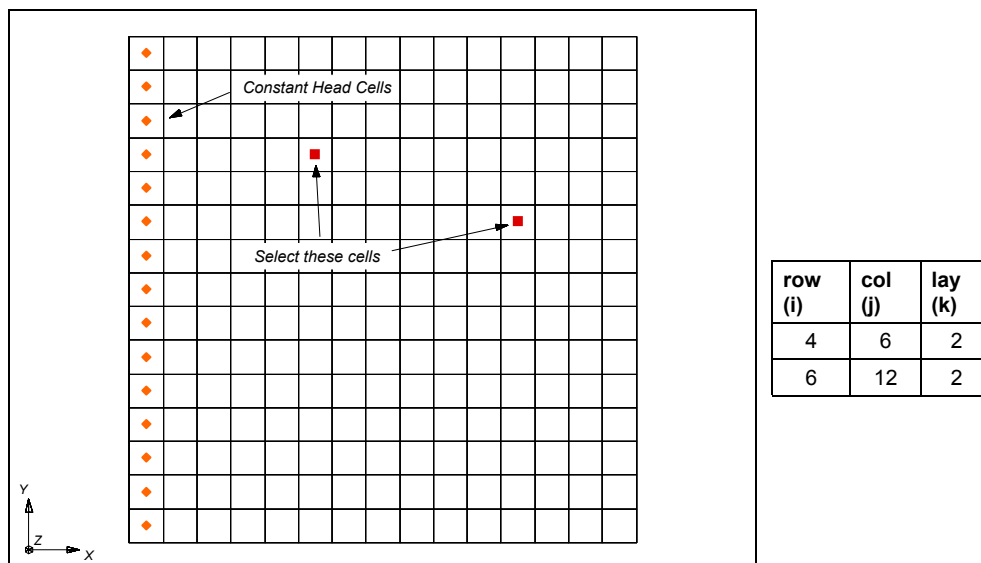

Figure 6. Cells to be Selected on Middle Layer.
2. While holding down the *Shift* key, select the cells are shown in **Figure 6**.